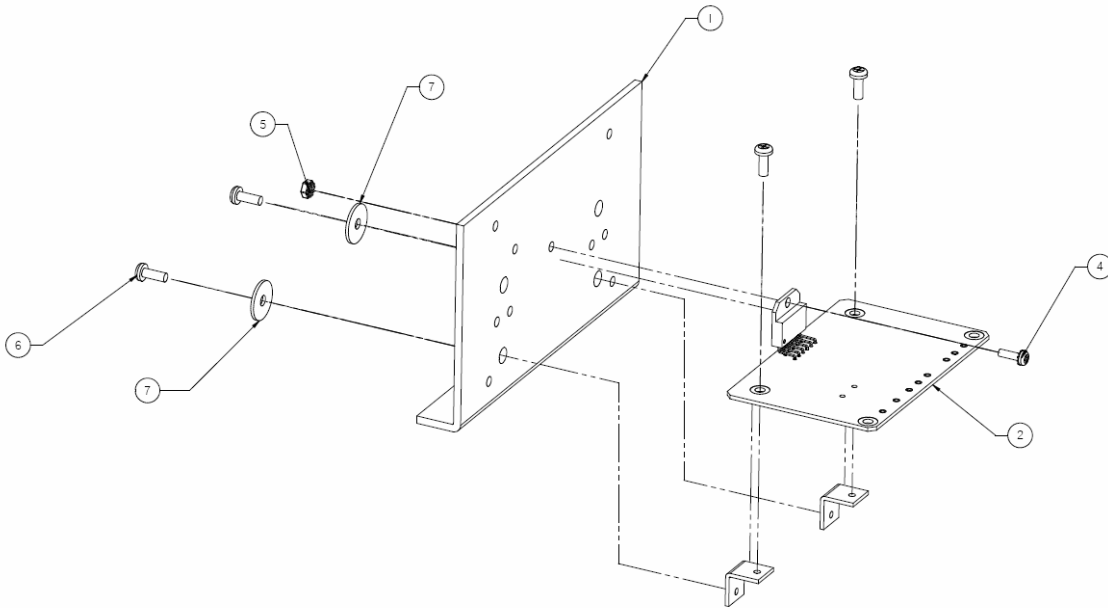

Figure 18-Mounting assembled PCB to heat sink
- b. 6-32x3/8" screw and nut with captive lock-washer (callouts 4 and 5 in Figure 18).
- c. Qty 2 of #6 fender washers, and Qty 2 of #6-32x3/8" Phillips head screws with built-in lock washers (callouts 6 and 7 in Figure 18).